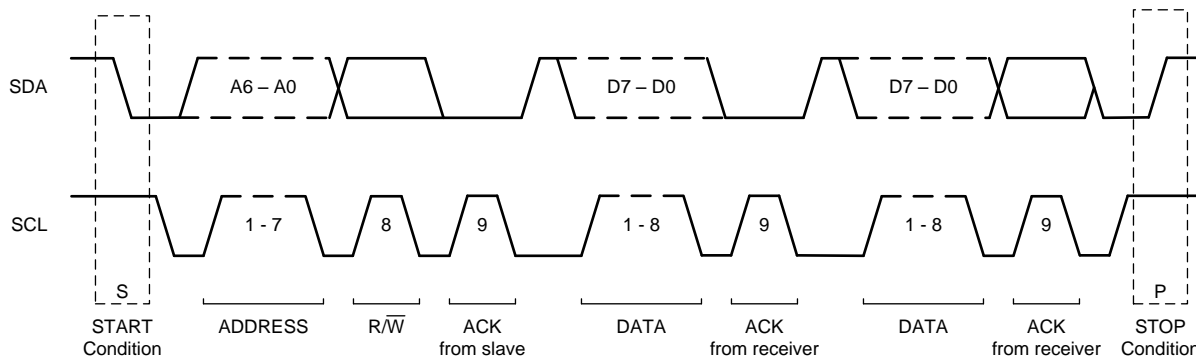

图 55. I²C Data Transfer Format
Figure 55 shows the format of the data transfer. The master initiates all transactions with the ADS112C04 by generating a START (S) condition. A high-to-low transition on the SDA line while SCL is high defines a START condition. The bus is considered to be busy after the START condition.